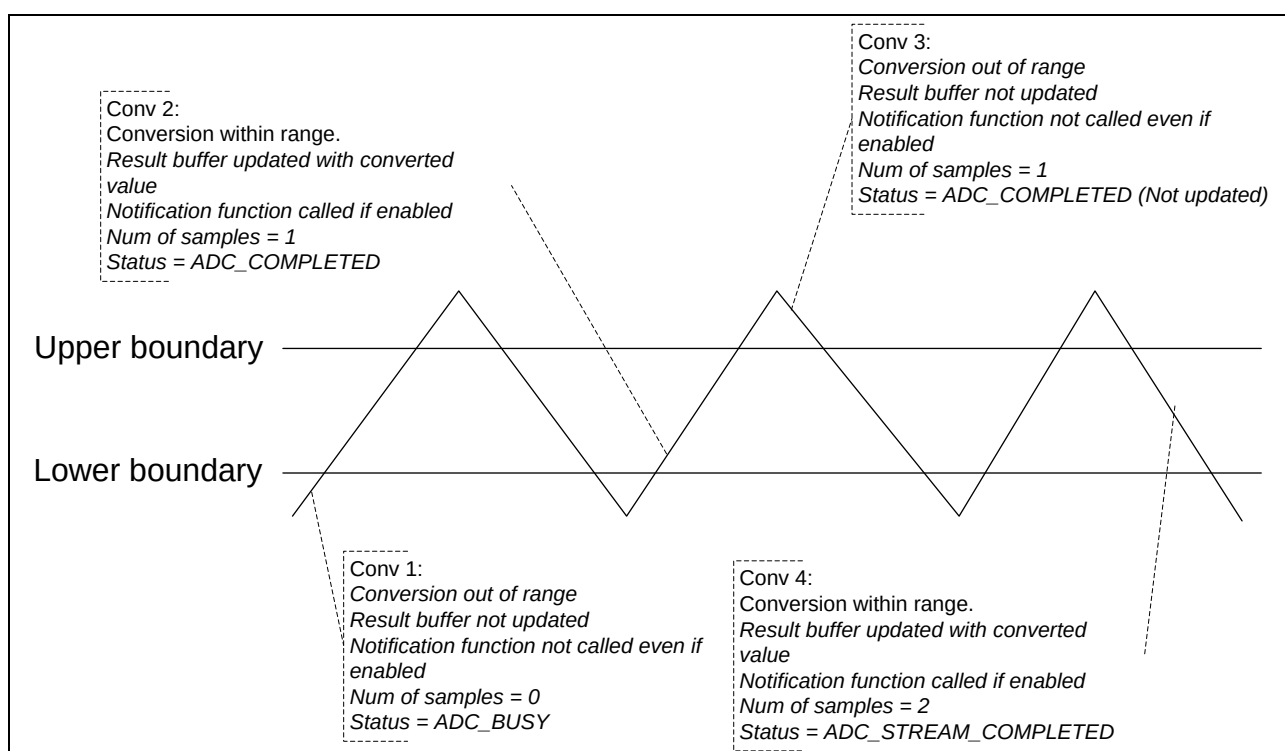

Figure 13 Result Monitoring through Standard compare mode limit checking
The **Figure 13** explains the result monitoring of standard compare limit checking.
- As per **Figure 13** conversions Conv 2 & Conv 4 results are within the configured range. Group status and the result buffer are updated in these conversions.